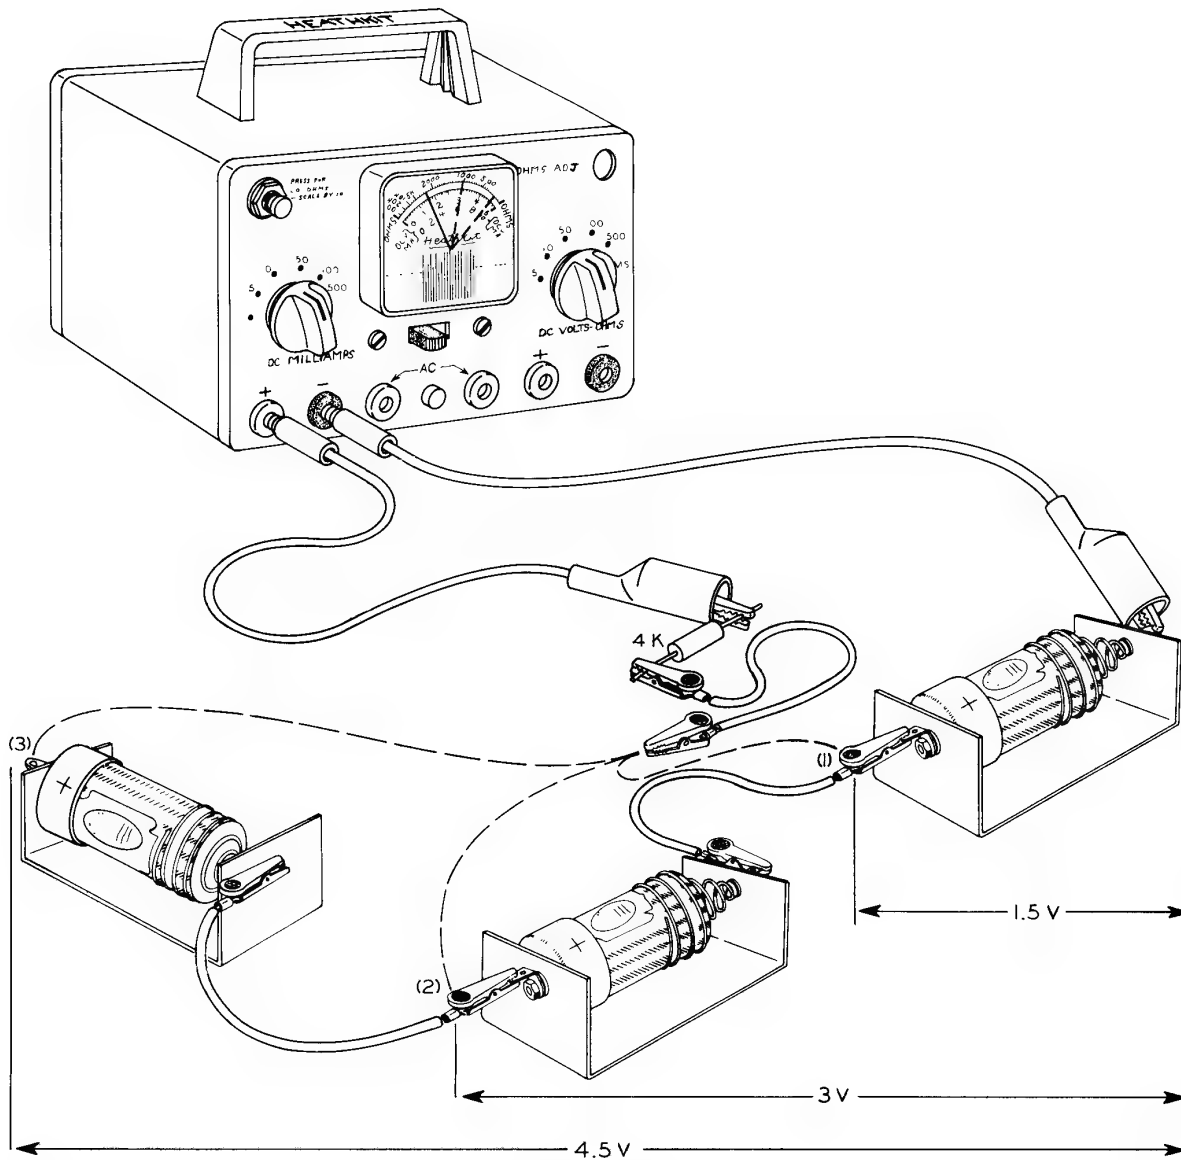

Figure 3-4
Construct the following circuit, Figure 3-4. The 4000 ohm precision resistor is marked "4 K". The letter K stands for 1000 unless otherwise stated on the Schematic Diagram.
Using the lead connected to the free end of the 4 K resistor, touch the appropriate cell terminals (1), (2), and (3), Figure 3-4, and read the indicated voltages of 1.5, 3 and 4.5 volts on the 0-5 volt scale.